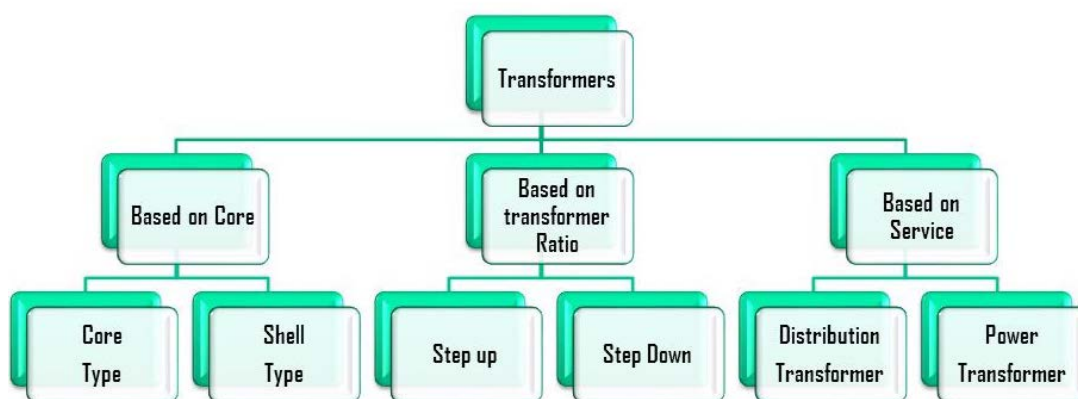

Figure 10.3. Types of transformer
5. Using the diagram on Figure 10.3 tell and Internet resources tell about the types of transformers.